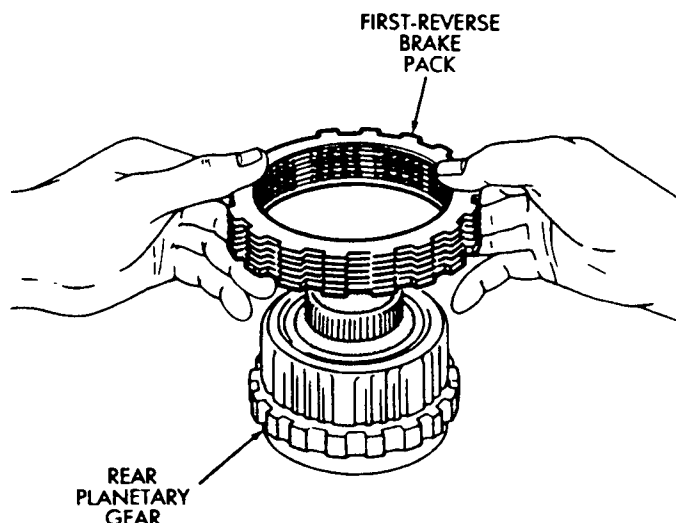

Fig. 4 Removing/Installing First-Reverse Brake Pack
(7) Verify one-way clutch operation. Hold gear and turn inner race in both directions. Race should turn freely counterclockwise, but lock when turned clockwise.
(8) Install planetary gear in ring gear.
(9) Assemble clutch discs and clutch plates (Fig. 4). Sequence is disc first, then a plate. Use seven discs and plates in a 6-cyl. transmission and six discs and plates in a 4-cyl. transmission.
(10) Install brake pack on planetary gear (Fig. 4).